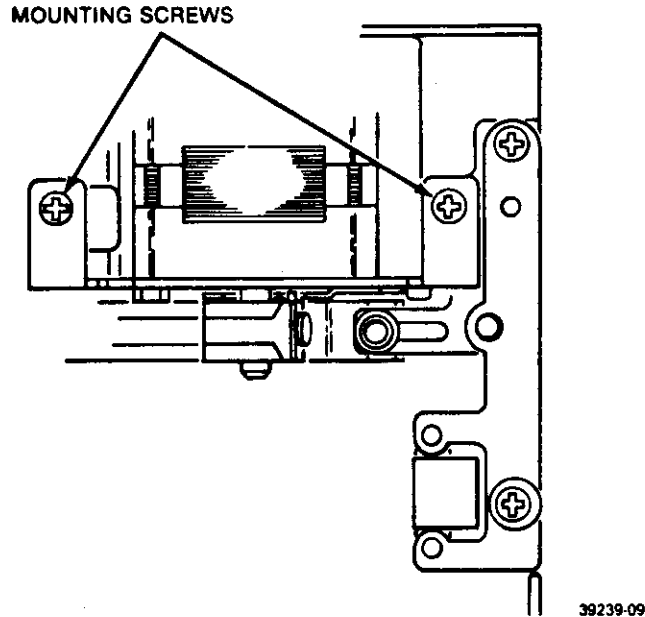

FIGURE 5-7. STEPPER MOTOR MOUNTING SCREWS
- f. Loosen two mounting screws, which hold stepper motor to base casting (see figure 5-7).
- h. When lobes are of equal amplitude, tighten motor plate mounting screws (see figure 5-7).